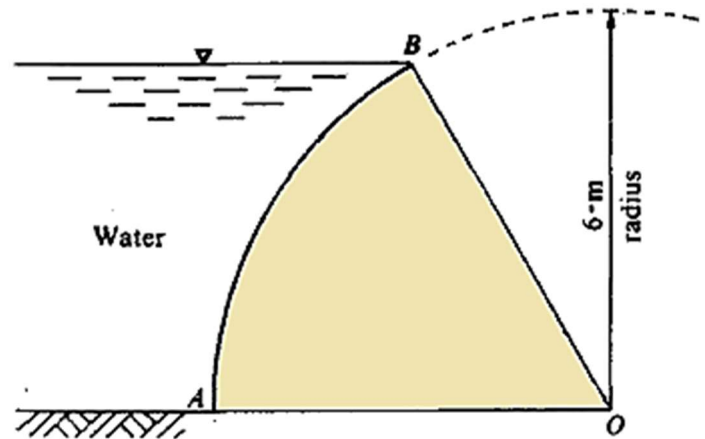

Fig. Q2B
- 2B. The submerged sector gate AB shown in Fig. Q2B is one-sixth of a circle of radius 6 m. The width of the gate (perpendicular to plane of paper) is 10 m. Determine the amount and location of the horizontal and vertical components of the total resultant force acting on the gate.